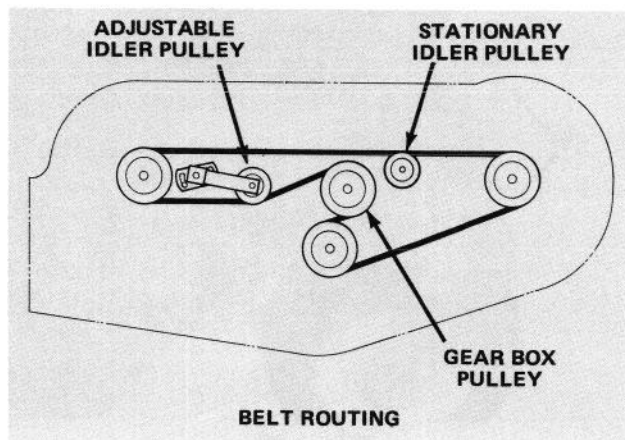

Figure 36
5. Install new belt around gear box pulley, spindle pulleys, stationary idler pulley and adjustable idler pulley (Fig. 36).